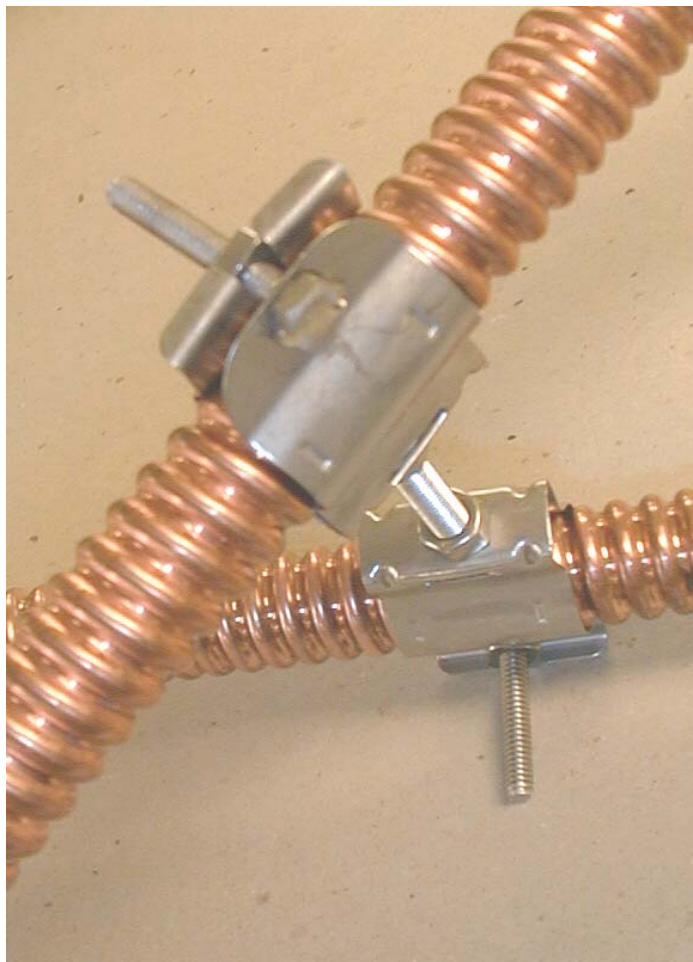

Figure 1. Recommended Cable-to-Cable Electrical Bonding Arrangement
- **Cable to cable:** Use two cable clamps and a full-threaded bolt or threaded rod with nuts, as shown in figure 1 of this sheet, to secure and electrically bond the cables together.